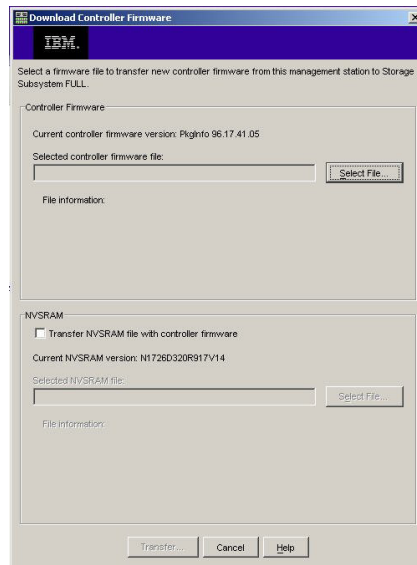

Figure 22. Download Controller Firmware window
2. Click **Support** → **Download firmware** → **Download Controller Firmware**. The Download Controller Firmware window opens, as shown in Figure 22.